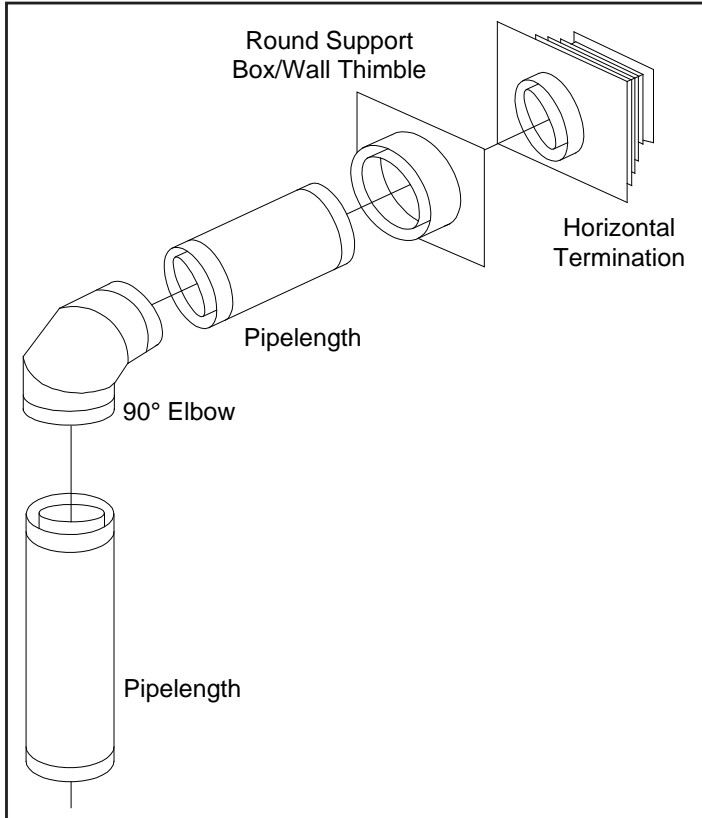
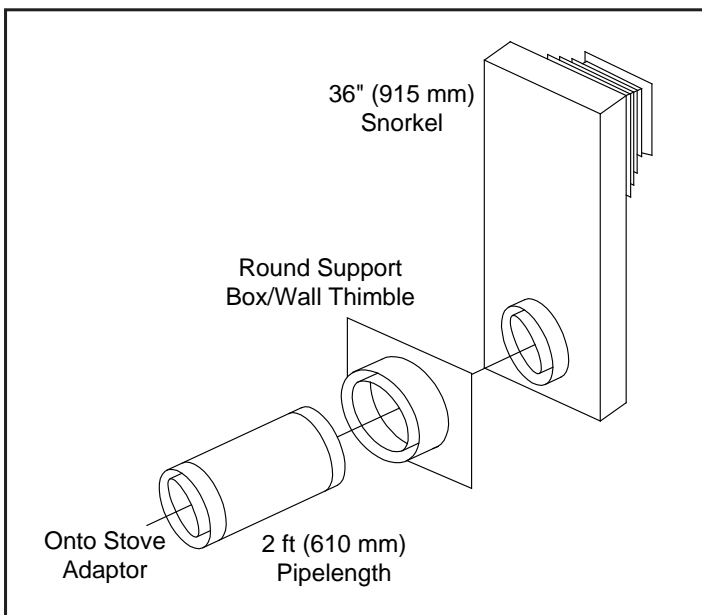

Figure 17: Common Horizontal Installation.
Figure 19: Common Snorkel Installation.
There are three (3) basic types of Direct Vent System installations. The three (3) types of installations are shown in Figure 17 through Figure 19.